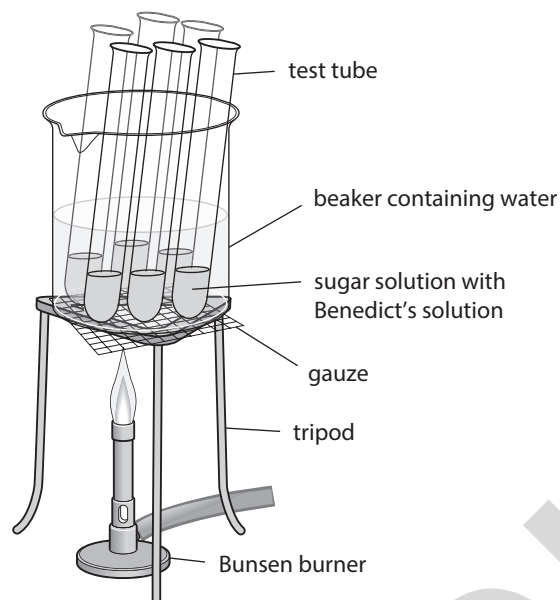

Figure 2.1
- 6 Set up a boiling water bath by filling the 500 cm³ beaker half full of water. Heat it using the Bunsen burner, tripod, gauze and heatproof mat as shown in Figure 2.1.